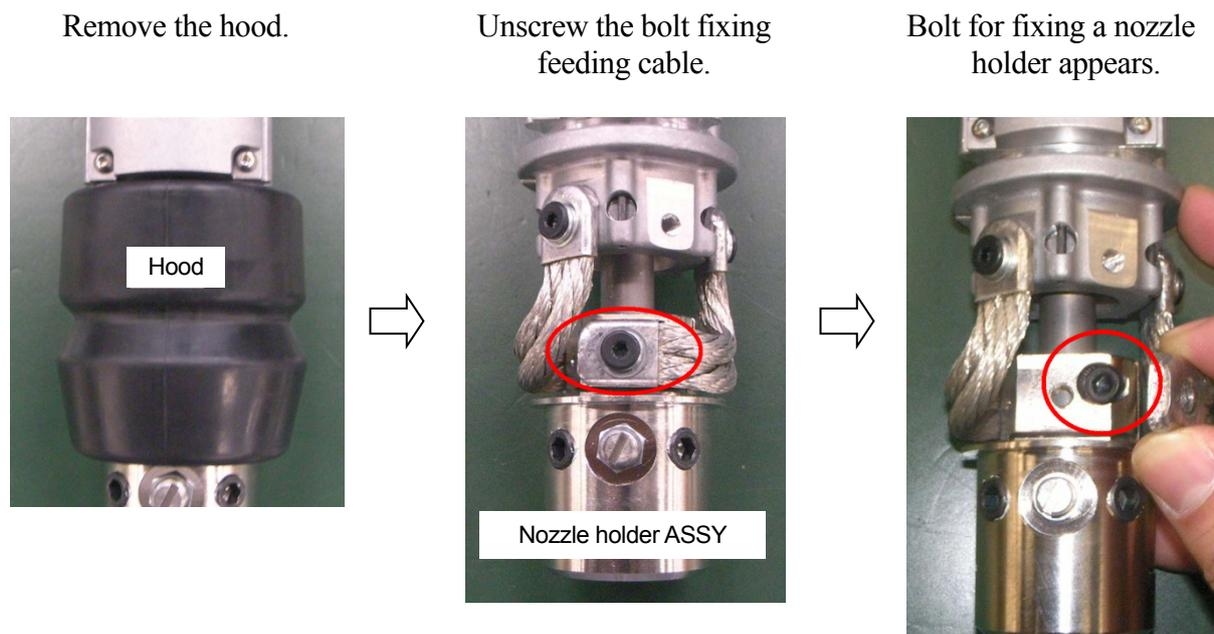

Fig 2.4 Adjustment method of torch (right/left direction)
1. If the torch end deviates in vertical direction, loosen 2 hexagon socket head cap screws ① (M8×20) that fix the insulating bracket onto the L bracket. Correct the position, moving the torch end in the direction that the torch end deviates (upward or downward), and then fix it firmly by tightening the hexagon socket head cap screws.
2. If the torch end deviates in front-back direction, loosen 2 hexagon socket head cap screws ② that fix the mount onto the L bracket (M8×25). Correct the position, moving the torch end in the direction in which the torch end deviates (backward or forward), and then fix it firmly by tightening the hexagon socket head cap screws.
3. If the torch end deviates in horizontal direction, adjust in the following procedure referring to the “Fig. 2.4 Adjustment method of torch (right/left direction)”.